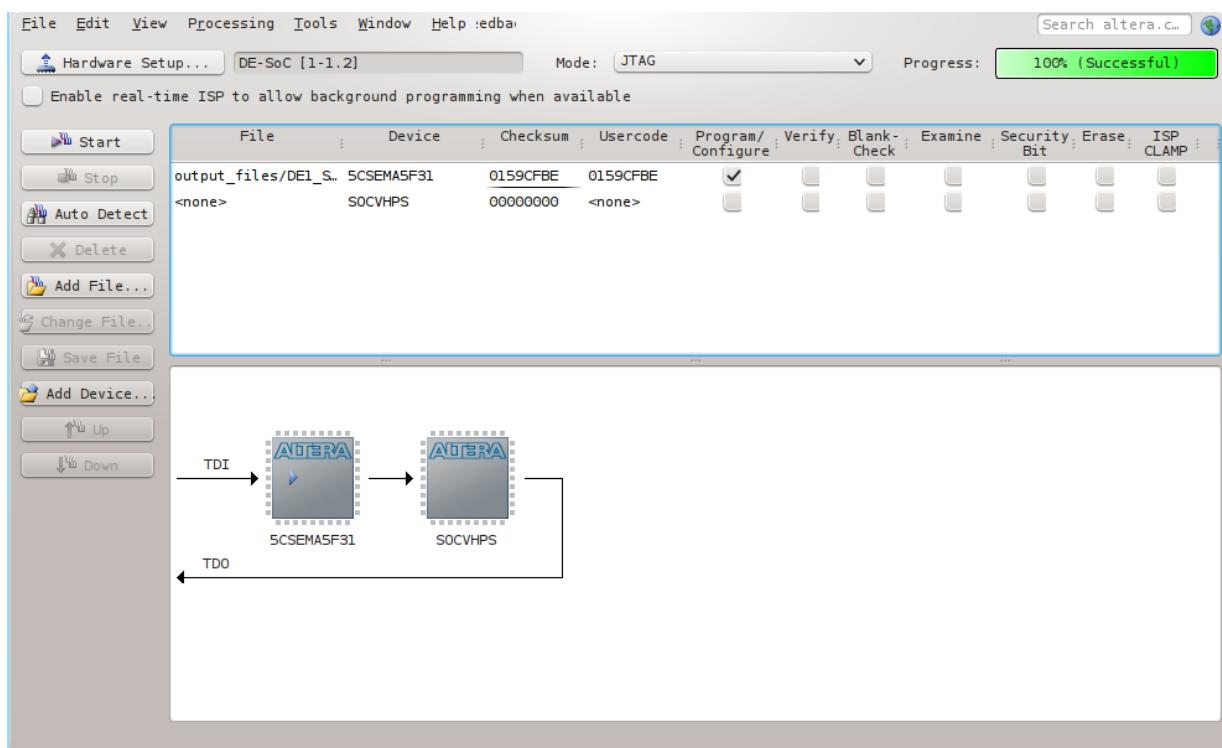

Figure 8-18. Programming the FPGA
39. Enable the “Program/Configure” checkbox for device “5CSEMA5F31”, then press the “Start” button, as shown in Figure 8-18.